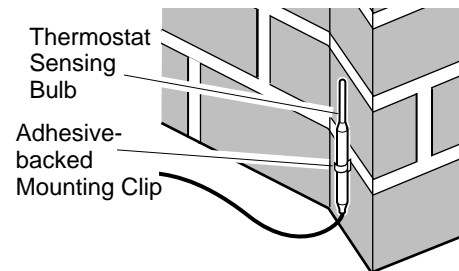

Figure 38 - Locating Thermostat Sensing Bulb on Masonry Fireplace
4. The thermostat sensing bulb may be located to the lower right front side of fireplace. Determine location of sensing bulb, but do not mount sensing bulb until step 5. If you have a masonry fireplace, see Figure 38 for location.